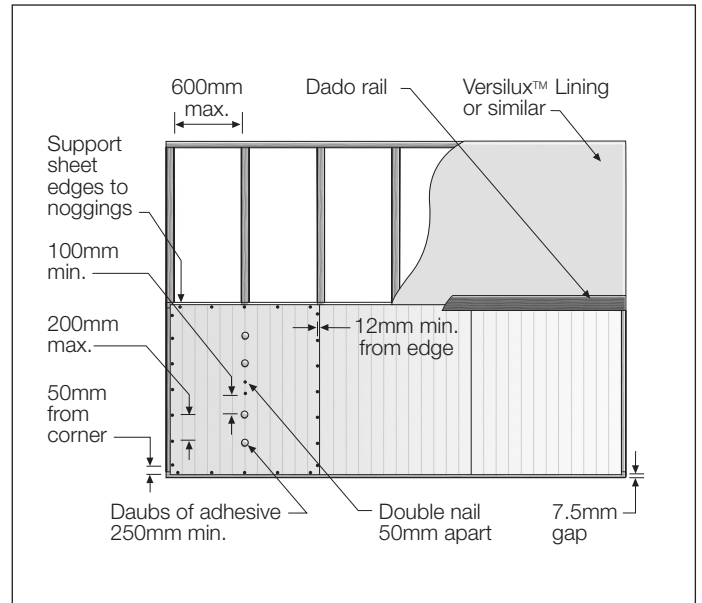

FIGURE 8 DADO HEIGHT FIXING
To reduce the number of visible fixings the centre of the sheet can be fixed with adhesive. See Figure 8 for details.
Hardie™ Groove Lining may be installed to half the wall height to create a dado appearance. Ensure top of sheet is fixed to an in-line row of noggings as shown in Figure 8.
1. Fastener fixing method is shown, however, fastener/adhesive fixing method may also be used. See Figure 8.